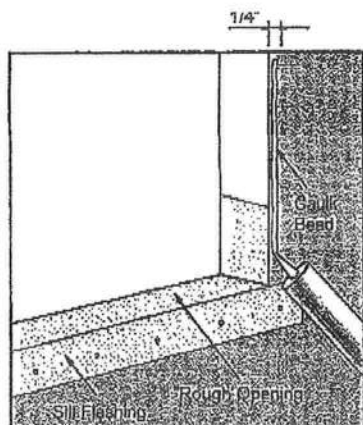

Figure 2
4. Apply a continuous bead of silicone caulk to the perimeter of the rough opening where the nail fin will make contact (no more than 1/4" from the edge of the rough opening). (See Figure 2)